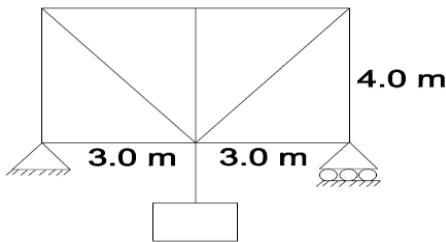

Figure 1
- B A weightless truss is subjected to a single mass 'm' as shown in Figure 1. Compute the natural period for the system in terms of m, l, E and A by representing the structure as a spring mass system. 7 M